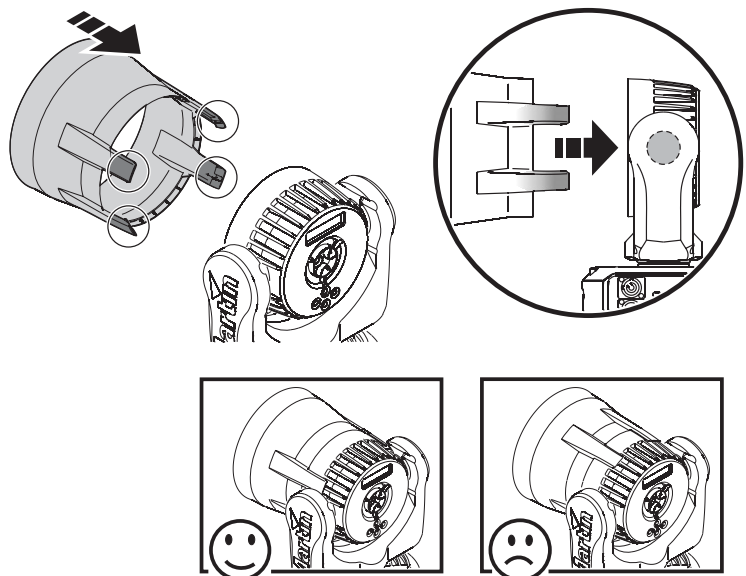

Figure 7: Installing a top hat
2. See Figure 7. Line up the top hat so that the pairs of retaining clips pass closely on either side of the tilt pivots in the sides of the head.